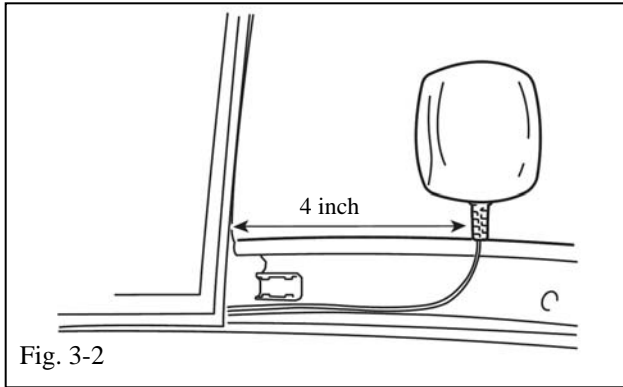

Fig. 3-2
- (b) Temporarily place the antenna in the position as shown to confirm the installation position. (Fig. 3-2)
- (c) Lift the roof drip side finish molding. (Fig. 3-2)
- (d) Remove the protective tape from the antenna and install the antenna 4 inches from the roof rail side as shown. (Fig. 3-2 & 3-3)